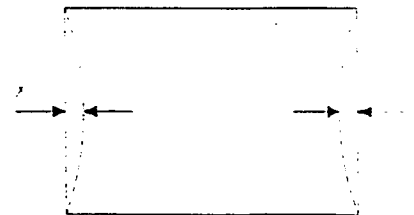

Figure 8
3. Press and rotate the Encoder to let  $X \leq 2.0$  mm (See Fig 8).